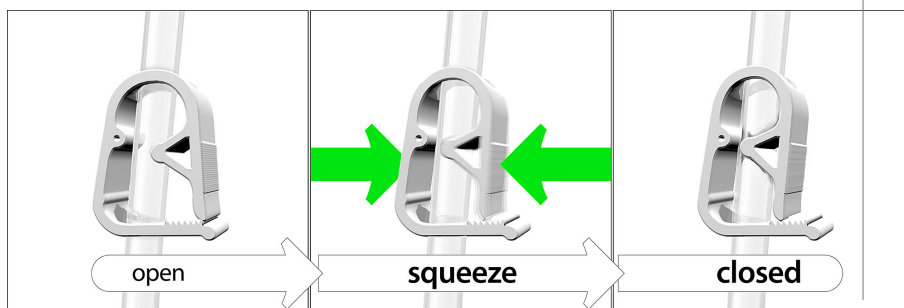

Figure 17
1. Close the tubing clamp (**Figure 17**).
4. Remove the tubing by holding the blue Twist N' Connect™ end of the tubing, gently twist counterclockwise and remove the tubing from the canister (**Figure 17**).